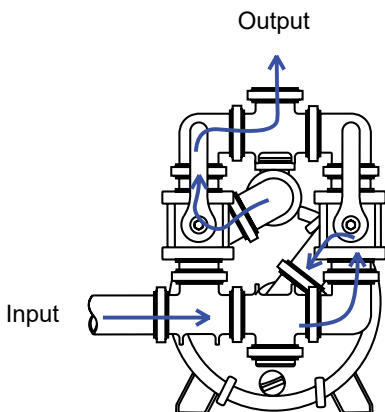

Fig. 1 (Pump Position)
To pump water from the tank (pump position) the valve handles must be set in the upward position, (Fig. 1).
3. Move the flow valves to the PUMP position (Fig. 1).
5. As the system drains, operate the flow valves (Figs. 1 & 2) to allow any trapped water to drain.